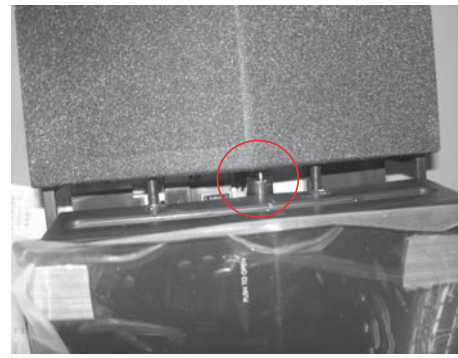

Figure 14
- Note: When install the BD module, please note the part of as shown in figure 14.